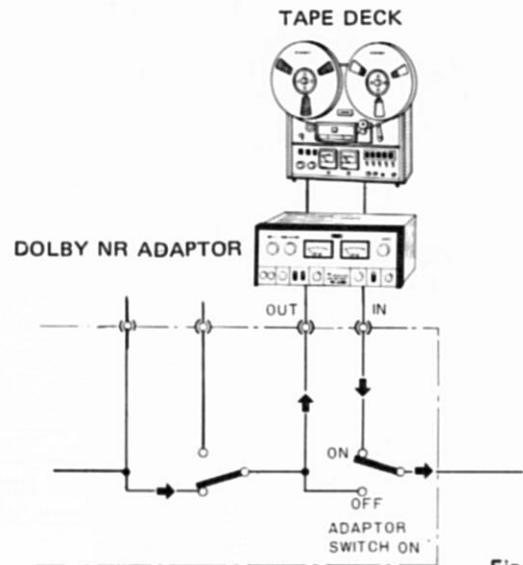

Fig. 18
1. As shown in Fig. 18, connect the Dolby adaptor output jacks to the tape deck recording input jacks (LINE INPUT).